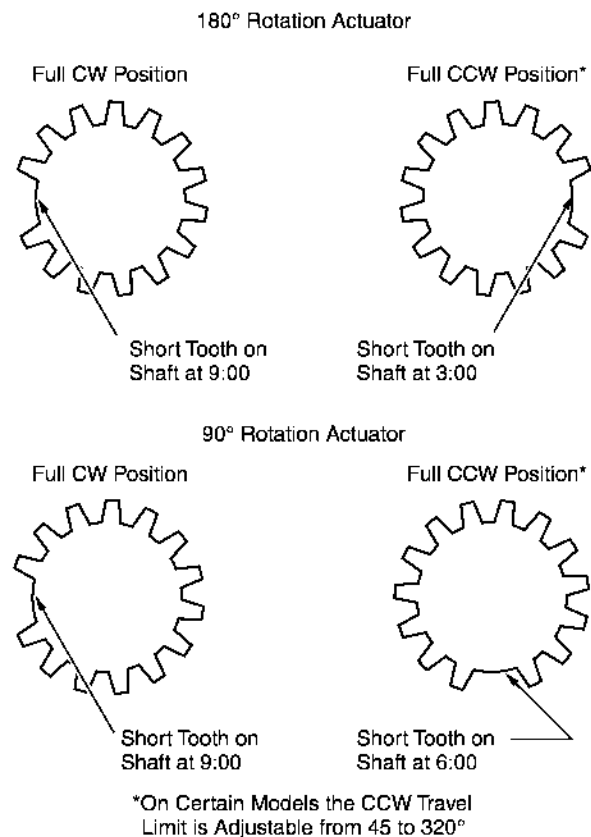
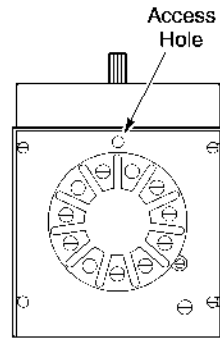

Figure-38 Actuator Output Shaft Position (Front View).
Figure-39 Limit Switch Adjustment.
The counterclockwise limit switch on certain actuators provides adjustable travel of 45° to 320° rotation. The actuator selection tables beginning on page 3 identify the models that have adjustable travel limits. To adjust travel refer to Figure-38 and Figure-39 while following the steps shown below.
2. The actuator should be powered and driven to its CW limit by shorting terminal X to terminal 2. Refer to Figure-38.
3. The access hole for the travel adjustment is located in the top plate of the actuator directly ahead of terminal block in the front of the actuator (where output shaft extends from actuator). Refer to Figure-39.